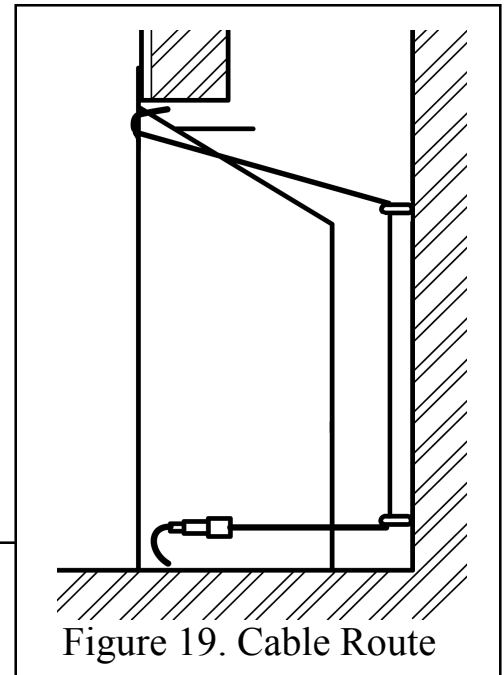

Figure 19. Cable Route
6. Thread the cables through the eyebolts. Return the cables through the holes near the bottom of the hotbox back panel, (**For precast or clay block flue systems return the cables through the slotted holes in the side of the hotbox**), and through the “V” shaped brackets near the bottom front sides of the hotbox - See figure 19.